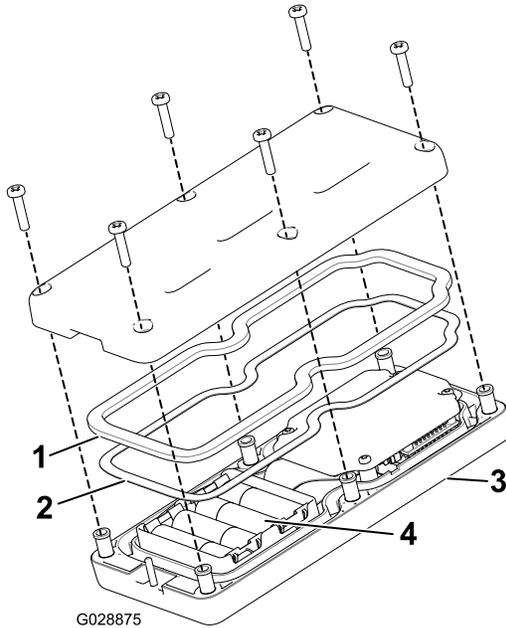

**Figure 41**
1. Loosen the bolt in the magnet on the magnetic remote bracket (Figure 41).
2. Slide the bracket sides apart and remove the remote (Figure 41).
- Install the handheld remote into the magnetic remote bracket, slide the halves together to secure the handheld remote, and tighten the bolt in the magnet (Figure 41).